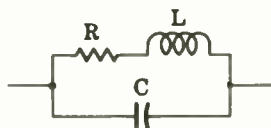

**Fig. 41**
*Inductance and series resistance in parallel with resistance (Fig. 41)*